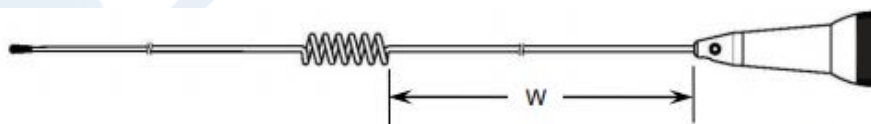

Figure 4
2. **Note:** Ensure the whip is located and completely seated inside the antenna whip adapter. The Tuned Length "W" is determined by measuring the distance between the top of the antenna adapter-spring and the bottom of the antenna phasing coil as shown in **Figure 4**. With the whip removed from the adapter, the cut length dimension will be approximately 1" (25mm) longer than the Tuned Length "W".
5. Cut the antenna whip as required to establish the specified Tuned Length "W" as shown in Figure 4.